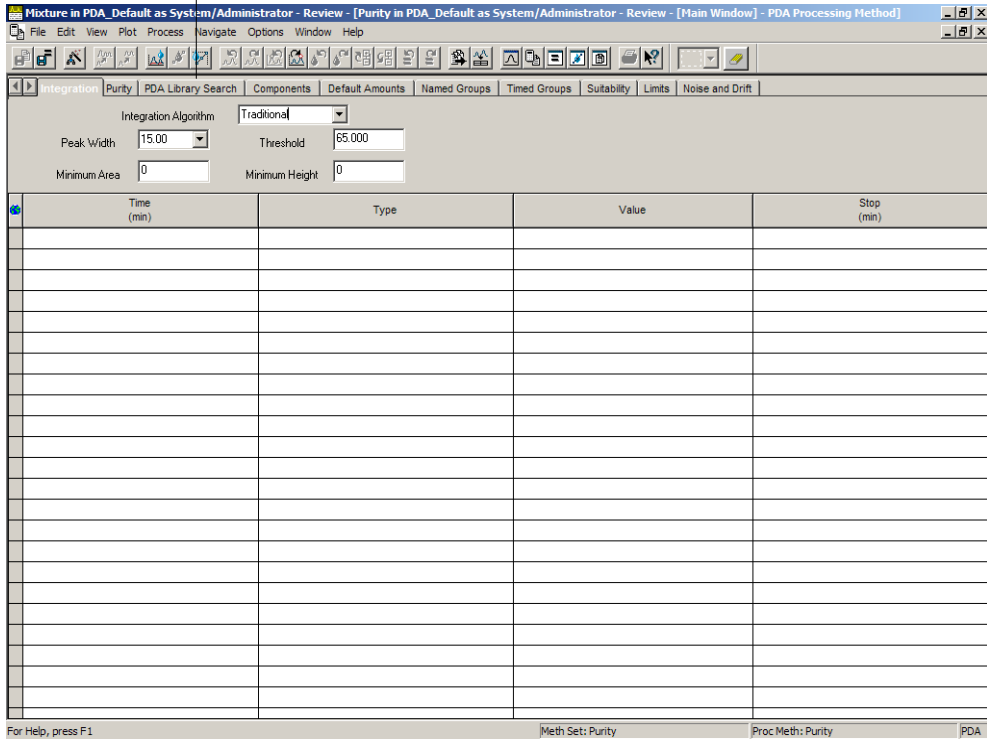

Figure 4-12 Processing Method Window
- Click (Processing Method) or select **Window > Processing Method** to open the Processing Method window and modify the existing processing method for library matching (Figure 4-12). If necessary, maximize the window.